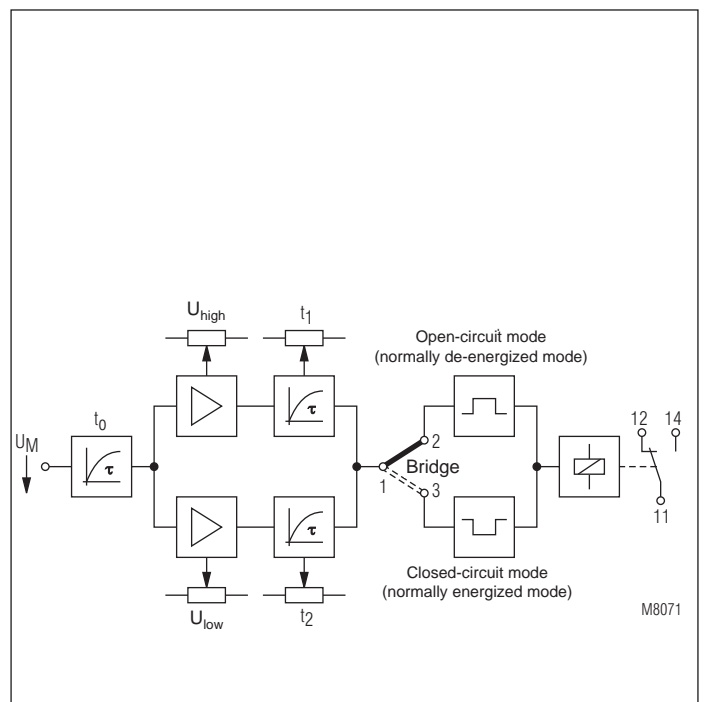

Fig. 9:
**Upper switching point, lower switching point, response principle, delay time  $t_1$ , and delay time  $t_2$ .** In a block diagram, figure 9 shows the general working principle of a voltage measuring relay.
After the theoretical preliminary consideration, we now come to the applications of measuring devices in practice. In particular, discrete devices shall be selected from the general case (figure 9).